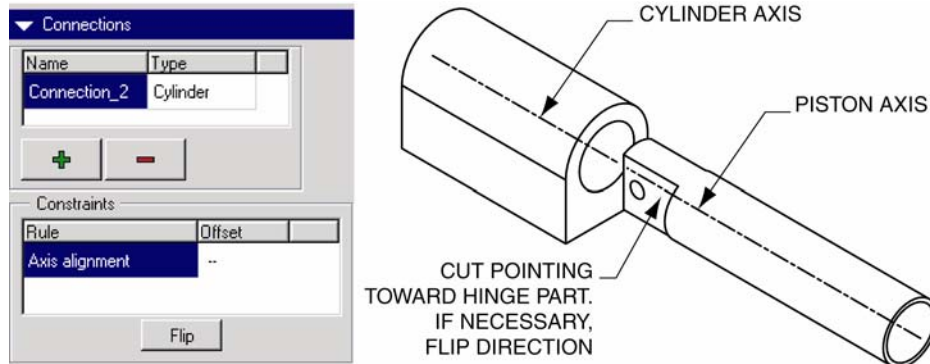

Figure 12-96: Cylinder Joint Definition
Step 13: On the Component Placement dialog box, select CYLINDER as the connection type (see Figure 12-96).
Step 14: Select the two axes shown in Figure 12-96.
Step 15: If necessary, select the FLIP option to point the piston's cut feature toward the hinge part (see Figure 12-96).